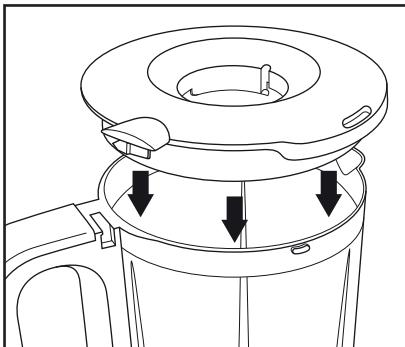
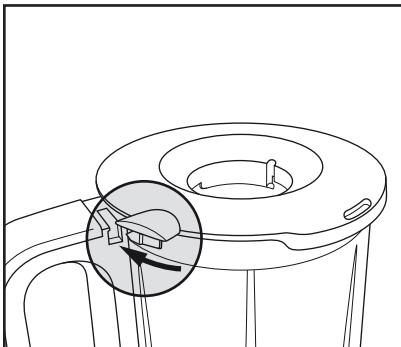

Fig. 3
Fig. 4
- 1) Place the blender onto the motor block ⑯ in a central position so that the arrow ▼ on the holder with mixing knife ⑨ is pointing at the symbol .
- 3) Fit the lid ⑥ to the blender ⑦ so that the lip of the lid ⑥ is exactly in line with the handle of the blender ⑦ (Fig. 3). Ensure that the lip is positioned exactly at the side next to the handle towards which the guide at the handle opens. Rotate the lid ⑥ clockwise so that the locking mechanism on the lid ⑥ engages in the guide at the handle of the blender ⑦ (Fig. 4). Press the lip down a little way to ensure that the locking mechanism has engaged in the slot.